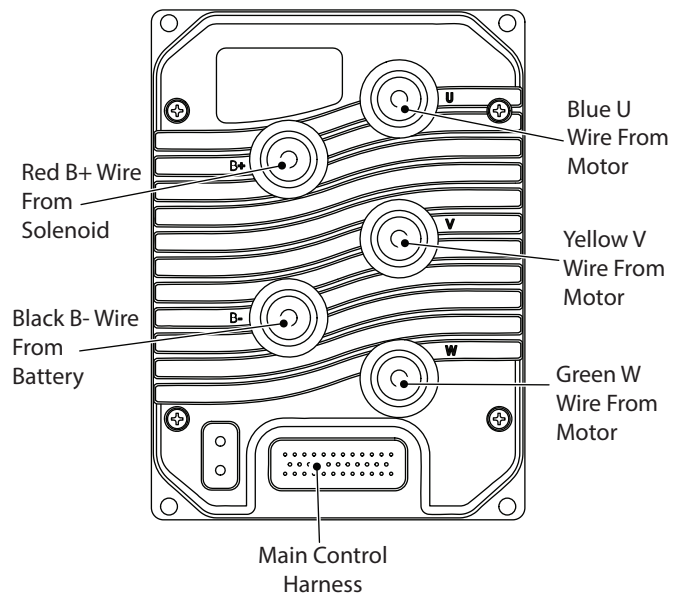

Fig. 11 Controller Wiring
- Remove the bolts (8) and lock washers (7) securing the wires from the battery and motor to the controller. Be sure to label the wires so they can be installed in the original location (Ref Fig. 11).